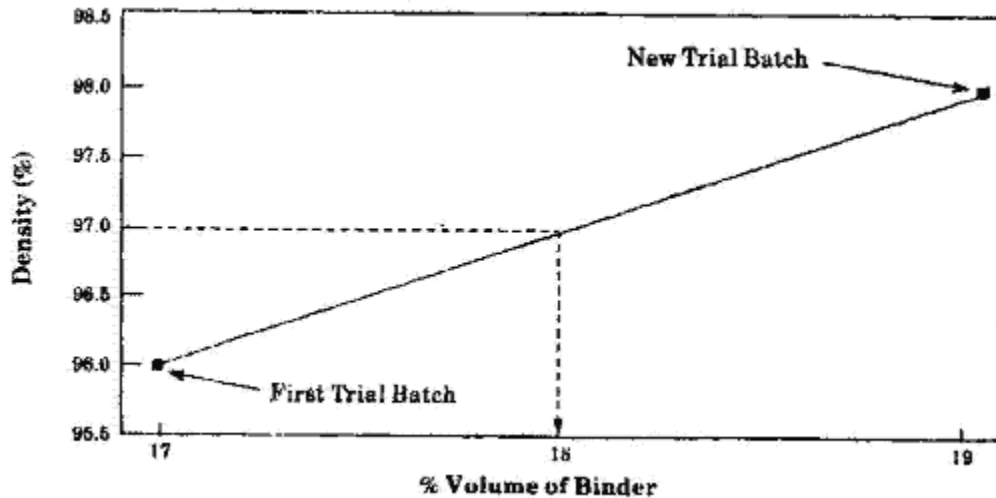

Figure 4—Density vs. Volume of Binder
- 10.6 Plot density versus percent volume of binder for the initial binder content and the second binder content. (See Figure 4 for an example.)